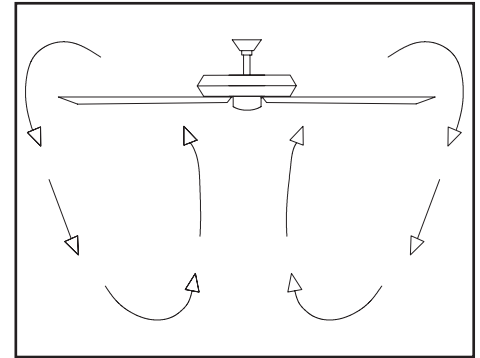

Figure 22
**Cool weather - (Reverse)** An upward air flow moves warm air off the ceiling as shown in Figure 22. This allows you to set your heating unit on a lower setting without affecting your comfort.